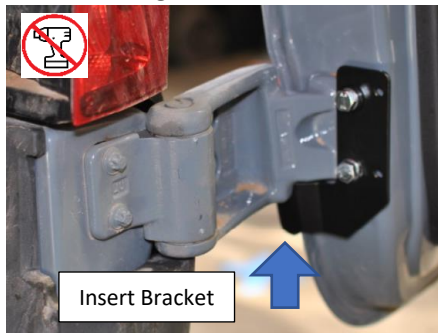

Figure 3: Lower Bracket Installed
- 13. Install the lower hinge bracket following the same procedure detailed in Step 12 and by installing over the hinge from the bottom up. Reference Figure 3.